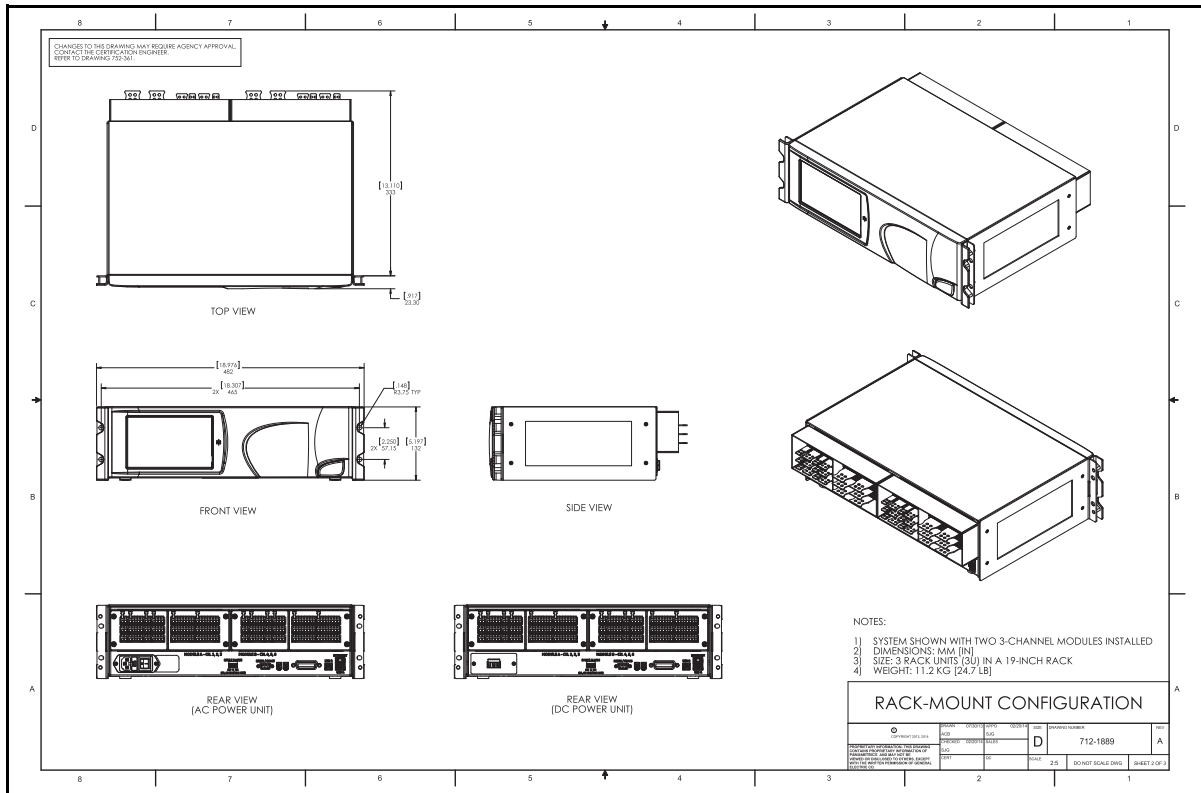
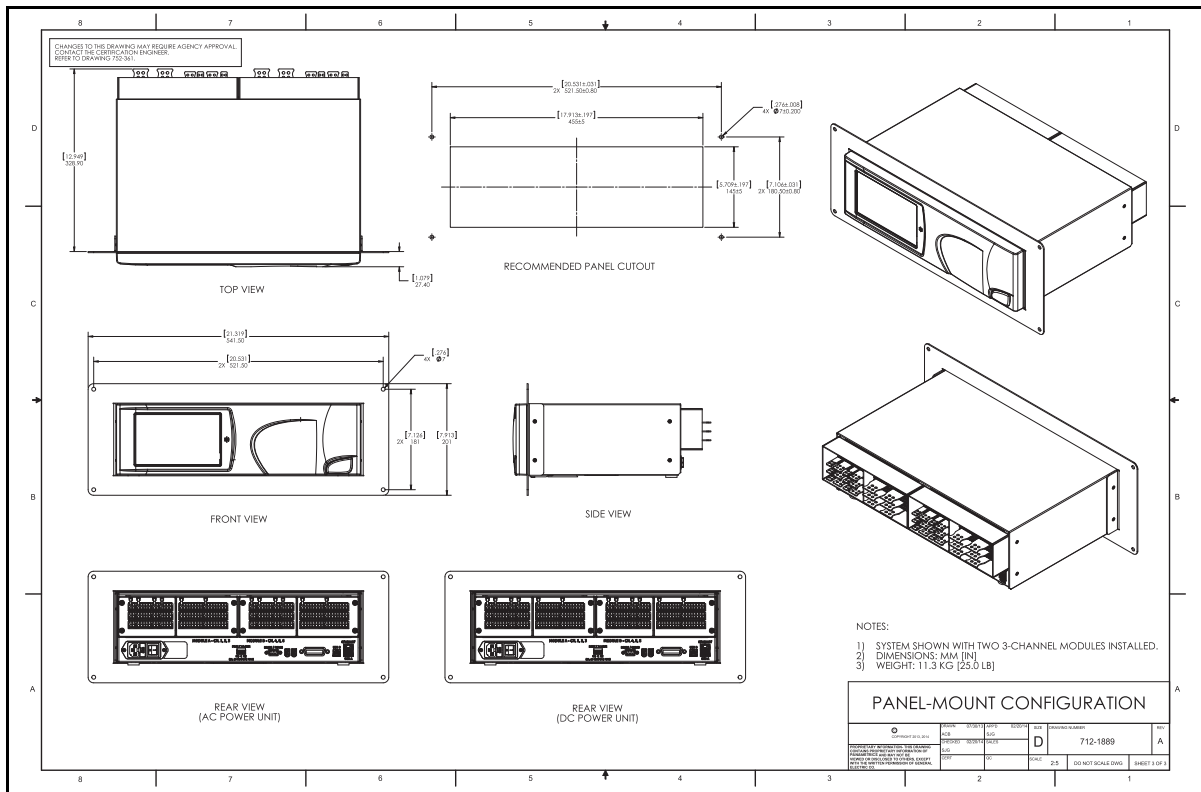

Figure 8: Rack-Mount Configuration (Dwg. 712-1889_revA, SH 2 of 3)
Figure 9: Panel-Mount Configuration (Dwg. 712-1889_revA, SH 3 of 3)
- The installation should comply with **configuration drawings** 712-1889 rack (see *Figure 8(B)* on page 5)/bench (see *Figure 7(B)* on page 4)/panel (see *Figure 9(B)* on page 5) version.